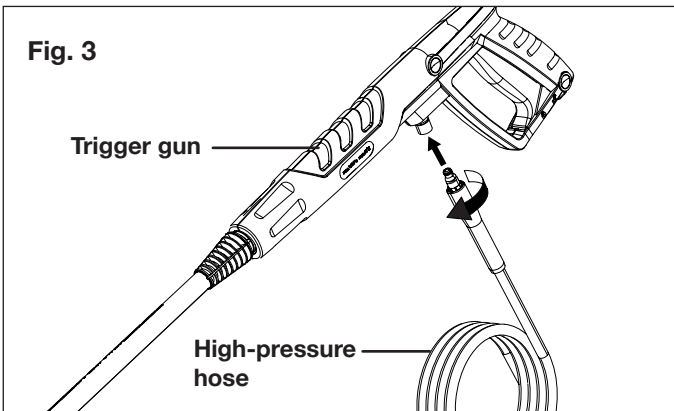

Fig. 3
2. Connect the silver end of the high-pressure hose to the trigger gun and twist the nut clockwise to secure the connection (Fig. 3).